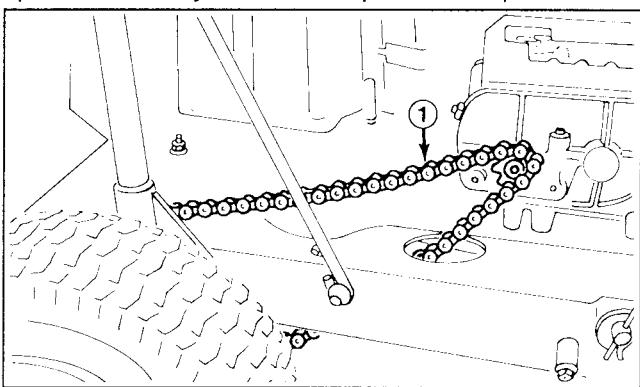
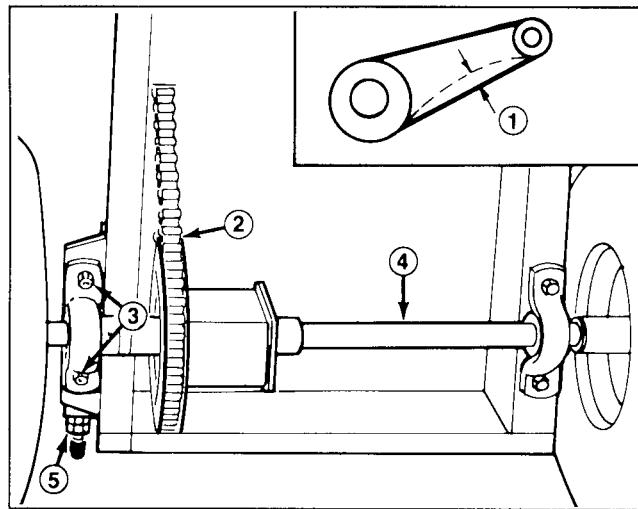

Figure 23
Figure 24
2. Check deflection of drive chain by lifting up and pressing down on chain with moderate pressure at mid span (Fig. 23). There should be 1/8 of an inch (3 mm) total deflection (Fig. 24). If deflection is not as specified, an adjustment is required — steps 3-13.
7. Loosen four flange nuts securing pillow blocks w/differential axle to the rider frame (Fig. 24).
8. Loosen rear jamnut on chain tensioner (Fig. 24).
11. Since differential axle must be parallel to rear of chassis, measure distance from center of pillow blocks to rear of chassis (Fig. 24). Difference between the two measurements must not exceed 1/8 inch. If difference exceeds 1/8 inch, differential axle is not parallel with chassis; therefore it must be readjusted.